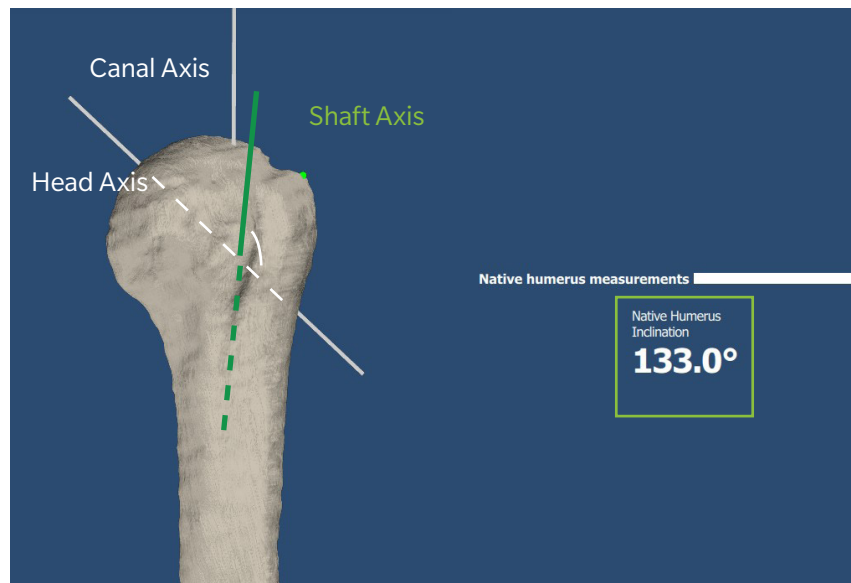

Figure 5 - Native humerus inclination
- The native humerus inclination angle is defined as the angle between the humeral head axis (based on the anatomic neck) and the proximal humeral shaft axis. (Figure 5)